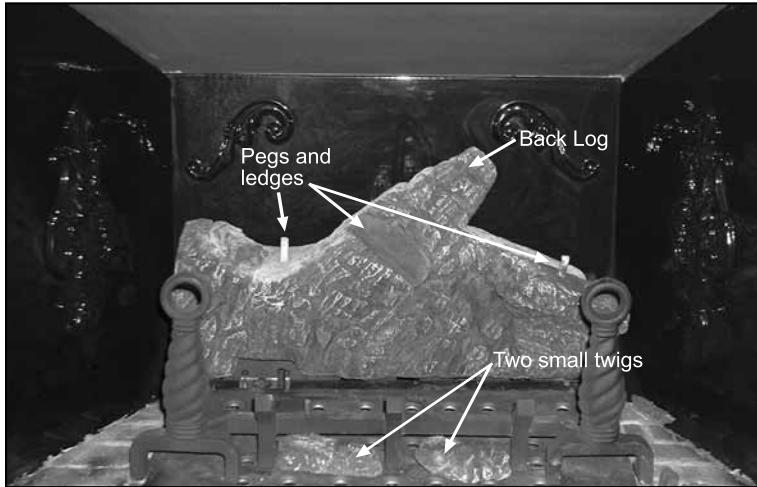

Figure 44: First Stage Log Set Installation.
The placement of the logs is not arbitrary. If they are positioned incorrectly, the flames can be "pinched" and will not burn correctly. The burner and a few of the logs come with locator pins, notches, and ledges which make alignment easier. The andirons and grate must be installed for the logs to be placed properly. Using the pictures provided, carefully set the logs in place (see figures 44 through 48).
Figure 44: Shows the **back log** plus the **two (2) small log twigs**. Put the large back log in first, making sure the locator pins line up with the cutout sections on the log. There are two (2) pins with ledges and a single ledge on the back log. The back log sits on two (2) supports attached at the rear of the firebox. The two (2) small twigs are placed under the grate and they should be rotated so they cover up the least number of small burner ports.